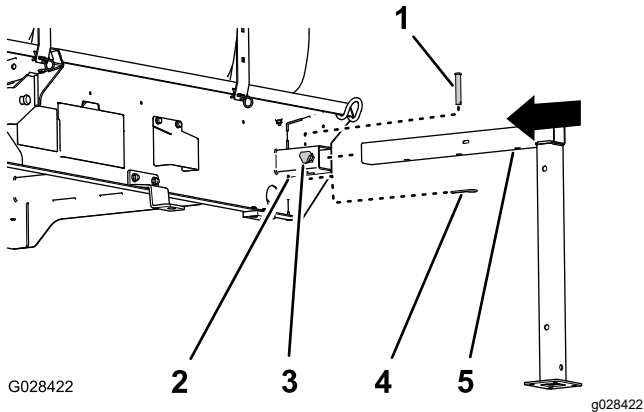

Figure 135
1. Align the front jack stand with the jack stand receiver at the front of the tank (Figure 135).
2. Insert the jack stand into the receiver until the middle hole in the horizontal jack stand tube is aligned with the hole in the top of the receiver (Figure 135).
4. Thread a lock knob into the receiver and tighten the knob by hand (Figure 135).